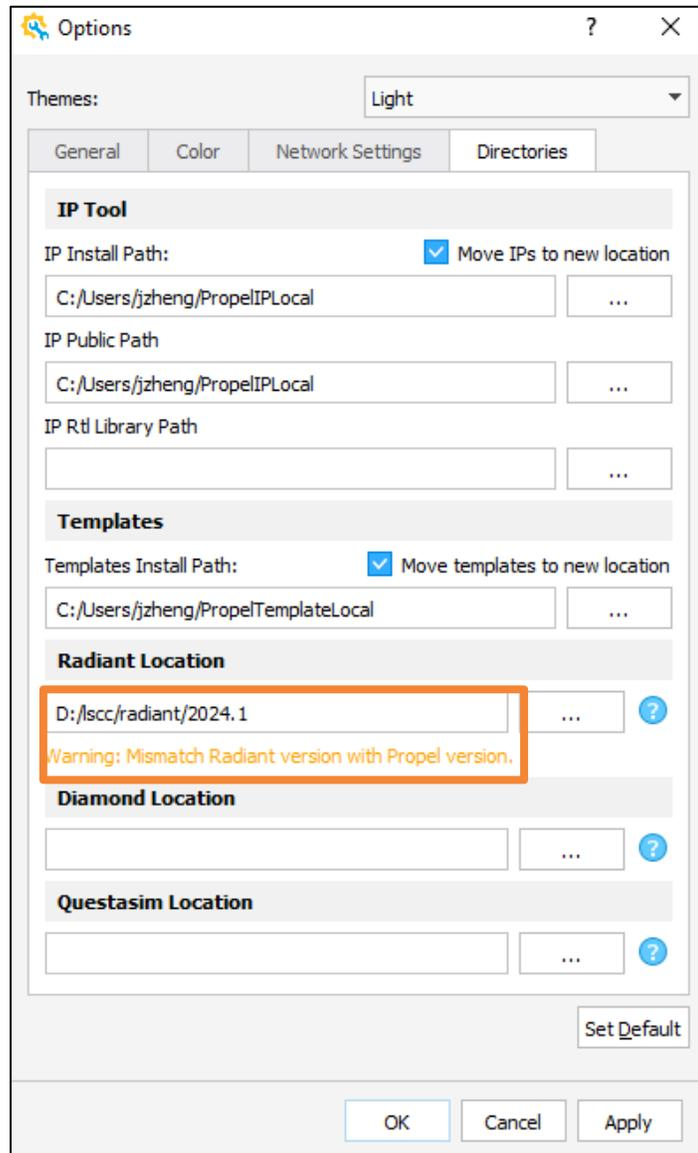

Figure 2.130. Mismatch Radiant with Propel
- Radiant Location (Figure 2.130): Folder where Radiant software installed.
- Diamond Location (Figure 2.130): Folder where Diamond software installed.
- Questasim Location (Figure 2.130): Folder where Questasim software installed (see Launching Simulation section for more information).
It is recommended to use the same version of Radiant and Propel for best compatibility. If the Radiant version is not compatible with current Propel version, there are warning message(Figure 2.130). If no Radiant is set, Propel Builder use the latest Radiant it detects.
Introduction for IP Tool (Figure 2.130):
- IP Installed Path (Figure 2.130): Folders of the IPs that are downloaded and installed. Refer to the Generating and Instantiating IP/Module section for more details.
- IP RTL Library (Figure 2.130): Folders of the IP RTL library. Refer to Lattice Propel 2024.2 IP Package User Guide \(FPGA-UG-02213\) for more details of the IP RTL Library.
Introduction for Templates (Figure 2.130):